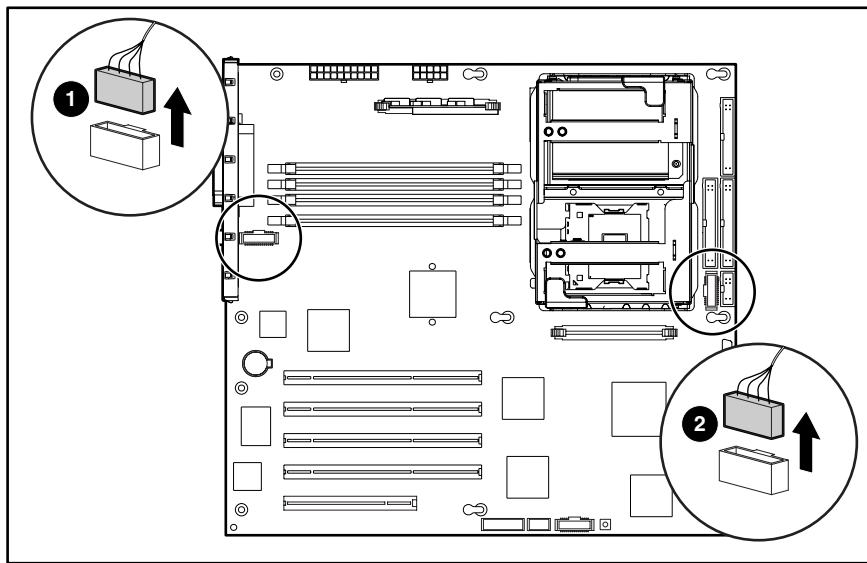

Figure 2-13: Disconnecting the fan cables from the system board
1. Disconnect the I/O fan cable from the system board (2). Refer to Figure 2-13.